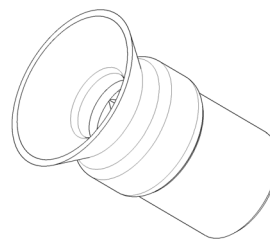
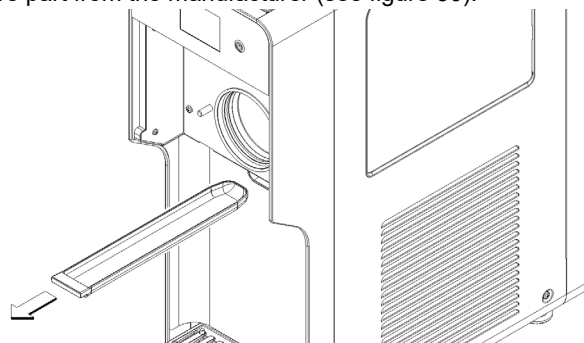

figure 30
figure 31
manufacturer. (see figure 30)
- 3 Once weekly: check for the presence of any leakage by removing the purpose-designed tray (see figure 31). In case they are present, make sure the scraper coupling seal is properly installed and not worn. If it is, replace with an original spare part from the manufacturer (see figure 30).